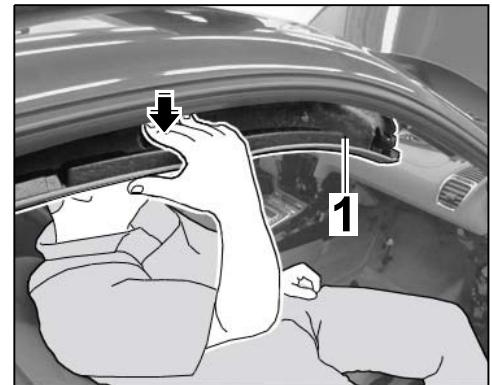

Figure 6
2.1.8 Carefully pull the headliner ⇒ *Figure 6 -1-* down ⇒ *Figure 6 -arrow-*.